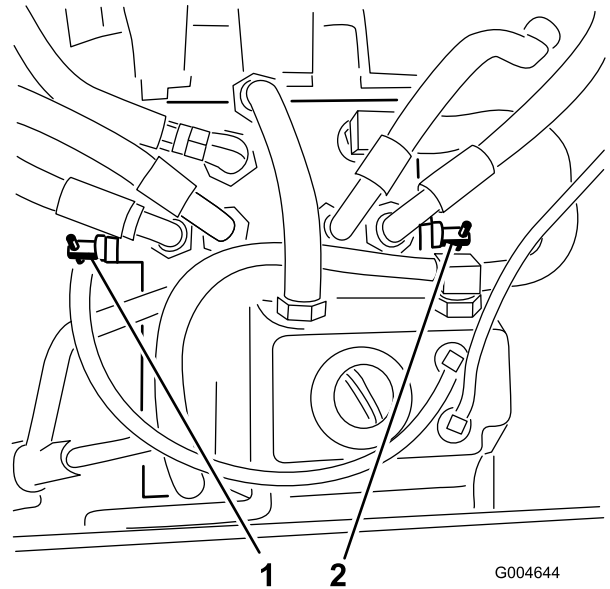

Figure 32
4. Rotate each bypass valve counterclockwise 1 turn to release; rotate each bypass valve clockwise to reset the system (Figure 32).